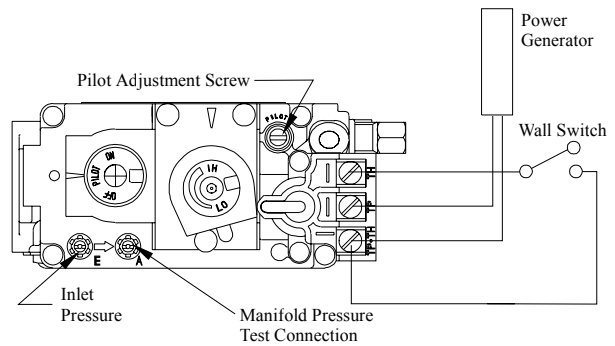

Figure 16. Sit Nova 820 gas valve for M38ODV-ST.
- Have the fireplace installation inspected yearly, including a visual check of the vent system, the burner and the pilot flame. For your convenience a 1/8" manifold pressure tap is supplied on the gas valve for a test gauge connection. See Figure 16.
1. Locate Pilot Adjustment Screw. (See figure 16.)
Pilot won't ignite	Disconnect remote wires and try to light pilot. If pilot now works, remote connections are faulty. Check wiring diagram figure 16 .
Main burner will not light	<ol style="list-style-type: none"> 1. Check wiring (see figure 16) 2. Check wall switch for proper connection.